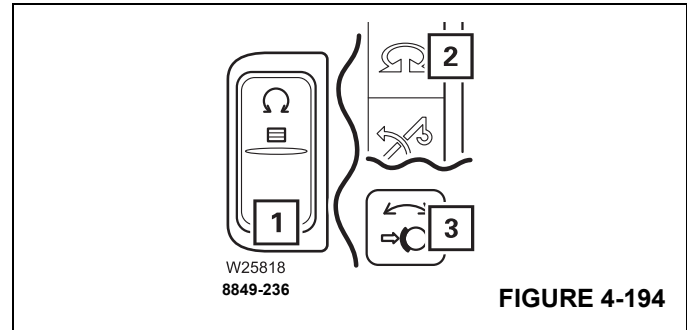

FIGURE 4-194
- The lamp in the switch (1), (Figure 4-194) must be dimly lit.
- Then symbol (2) turns red – swing gear switched off.
- Lamp (3) must light up – swing gear brake applied.